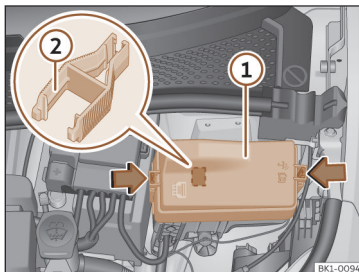

Fig. 181 In the front compartment: fuse box cover.
- Press the locking tabs to unlock the fuse box cover >>> **Fig. 181** ①.
In the fuse box there may be plastic tweezers for removing fuses >>> **Fig. 181** ②.